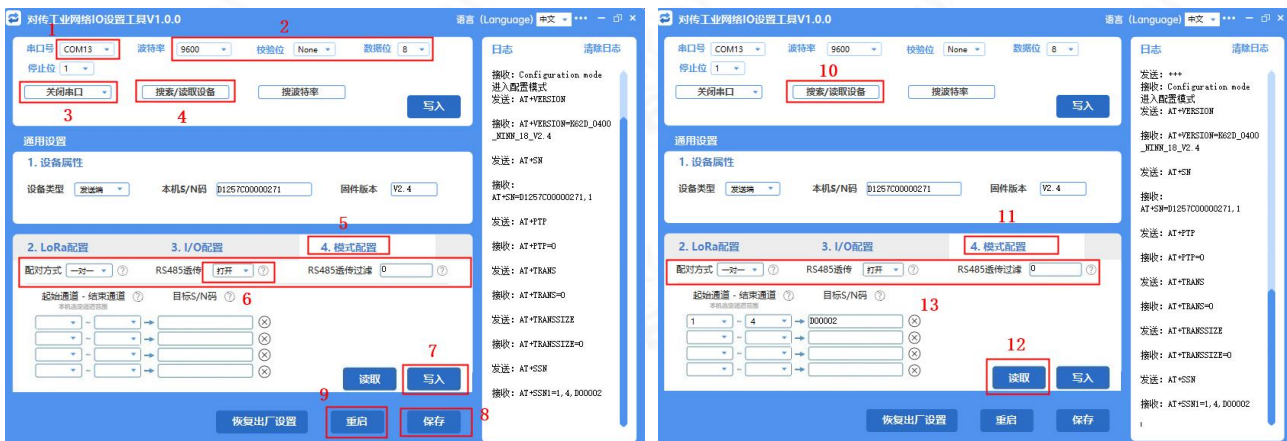

图 4-21 485 透传开启
(1) Turn on the 485 transparent transmission function
a. Steps (as shown in Figure 4-21 below): Open the "Interconnection Network IO Setting Tool" → select the correct COM port number and correct (default) parameters → click "Open Serial Port" (if the parameters have been changed and forgotten, the factory settings can be restored, operate according to method 1) → "Search/Read Device" → "4. Mode Configuration" → RS485 Transparent Transmission drop-down to select "On", pairing mode select "One-to-One", RS485 transparent transmission filter input value according to the usage (Default 0) → Click "Write" in "4. Mode Configuration" → observe the log column, prompting success → Click "Save" → Click "Restart" → Finish.